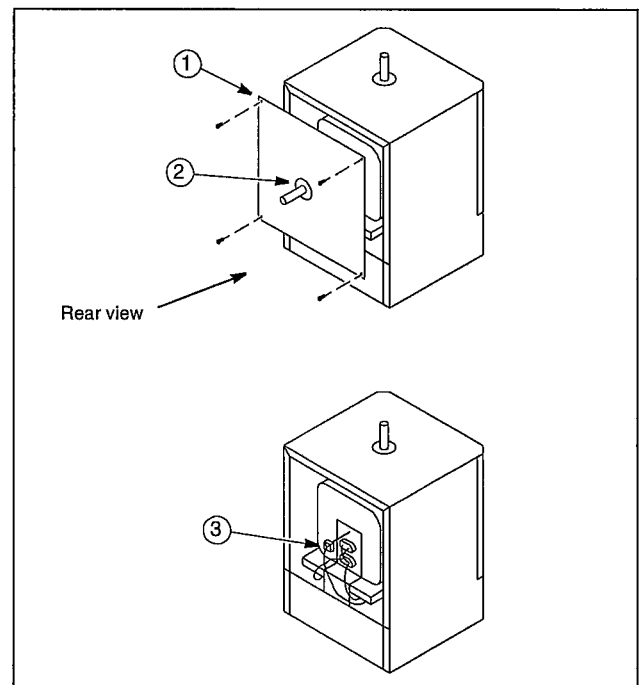

Figure 4. Thermocouple Replacement
Refer to Figure 4 as you perform the following procedure:
1. Remove any atmosphere piping connected to the atmosphere pipe (item #2 in Figure 4).
3. Remove the screws from rear panel corners. Remove the rear panel (item #1 in Figure 4).
6. Slide out head and old thermocouple (item #3 in Figure 4).